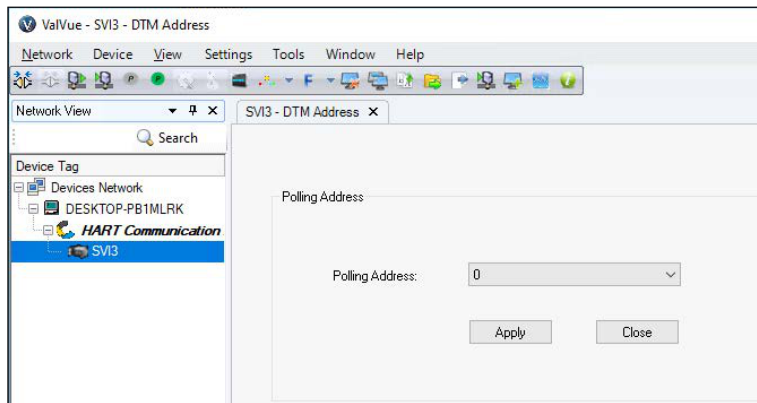

Figure 21 - Communication Tab
- Right-click on the device in the topology pane, select **Additional Functions > DTM Address** and Figure 21 appears. Correct the *Polling Address* and click **Apply**. Disconnect and then reconnect.